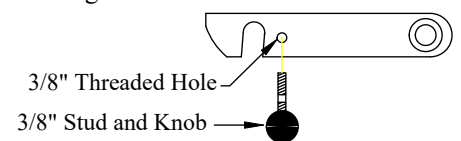

Figure 19: Original Series platform latch knob.
1. **Install** the two (2) knobs on the platform latches (Original Series only) see (Figure 19).
2. **Install** the two (2) square plastic insert nuts for the license plate into the square holes on the liftgate.
3. **Install** the license plate using the two (2) stainless steel screws provided.